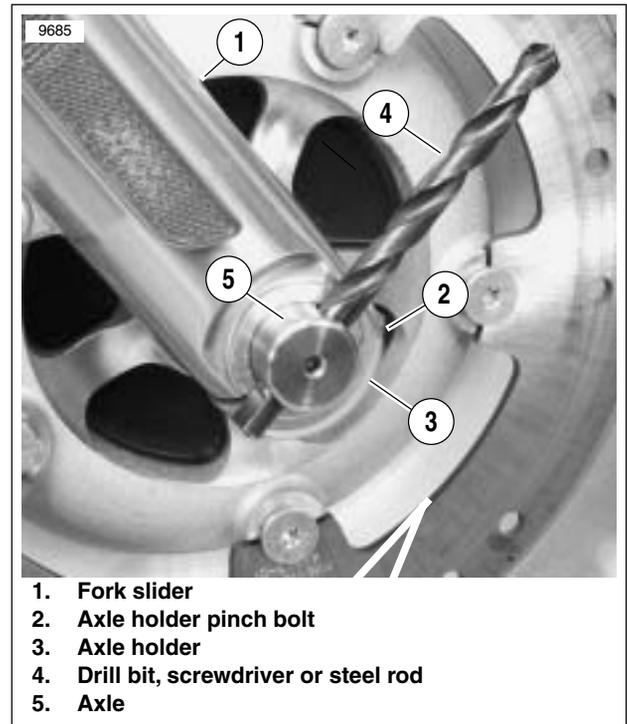

Figure 2-69. Aligning Fork to Wheel
2. See Figure 2-69. Place wheel and spacers into front fork and install axle (5). Verify that axle spacers on right and left side are properly installed.
4. Insert 7/16" drill bit (4) into hole in axle (5).
5. Pull fork leg so that it just contacts the drill bit, screwdriver or steel rod and then tighten axle holder pinch bolts (2) to 16 Nm (12 ft-lbs). Ensure that gap between the axle holder (3) and the fork slider (1) is equal at front and rear of axle holder.